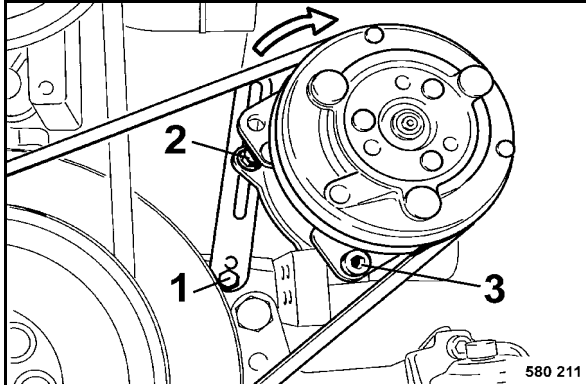

Fig. 139
- Slightly slacken the fastening screws 1, 2 and 3 (Fig. 139).